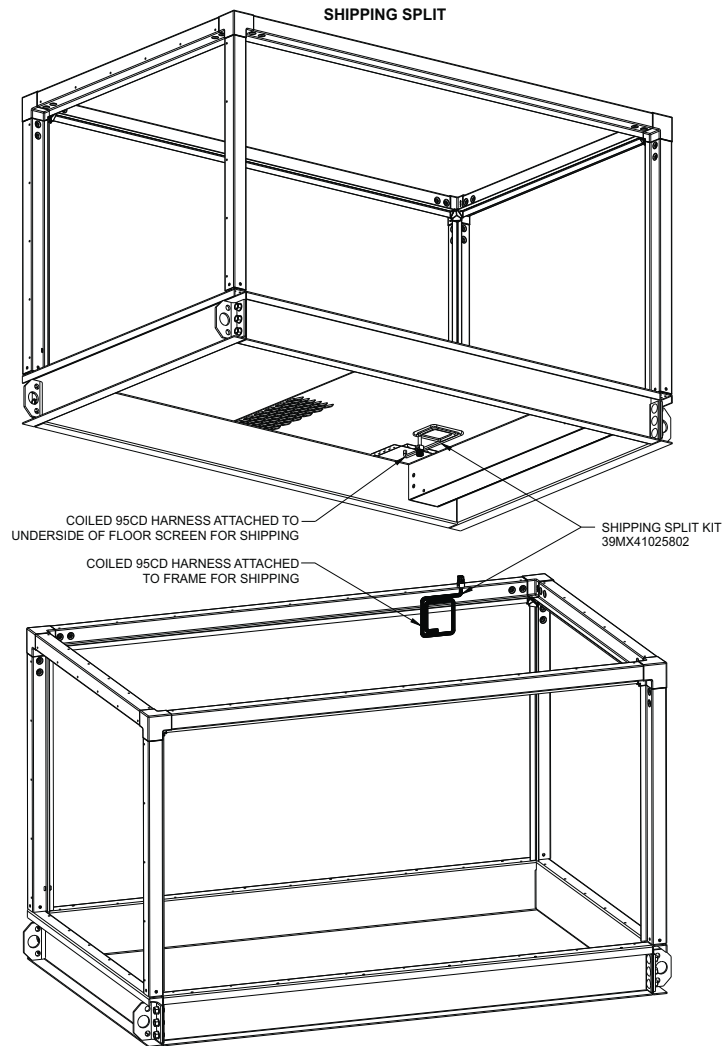

Fig. 34 — Stacked Unit Harness Connection at Vertical Split as Shipped
7. Verify that the labels on the power plug connectors (Fig. 34) and, if used, the labels on the control plug connectors on both sections match.